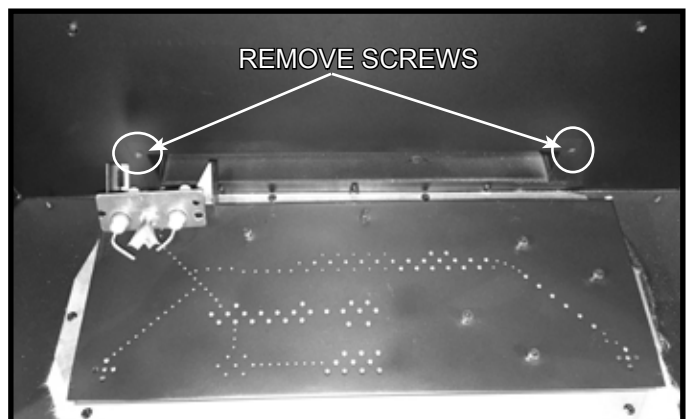

Figure 2. Remove Screws - Generic Burner Shown
4. Remove two lower screws behind the burner. Retain those screws also for future use. See Figure 2.